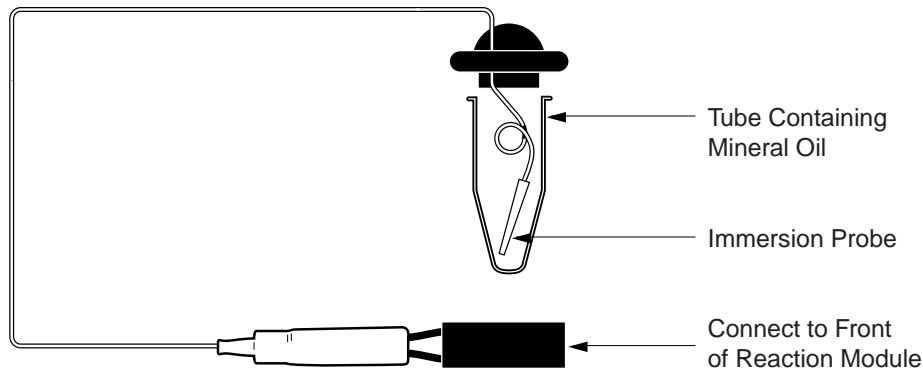

Fig. 5.3. Use of the Immersion Probe for use with sample measurement mode.
- Sample: Sample mode requires the use of a temperature immersion probe for temperature control (See Figure 5.3). Place the immersion probe in a tube containing a volume of mineral oil equal to the volume of a sample in the other tubes. Plug the probe into the 2-pin connector at the front of the sample block. (Mineral oil is used because it does not evaporate.)